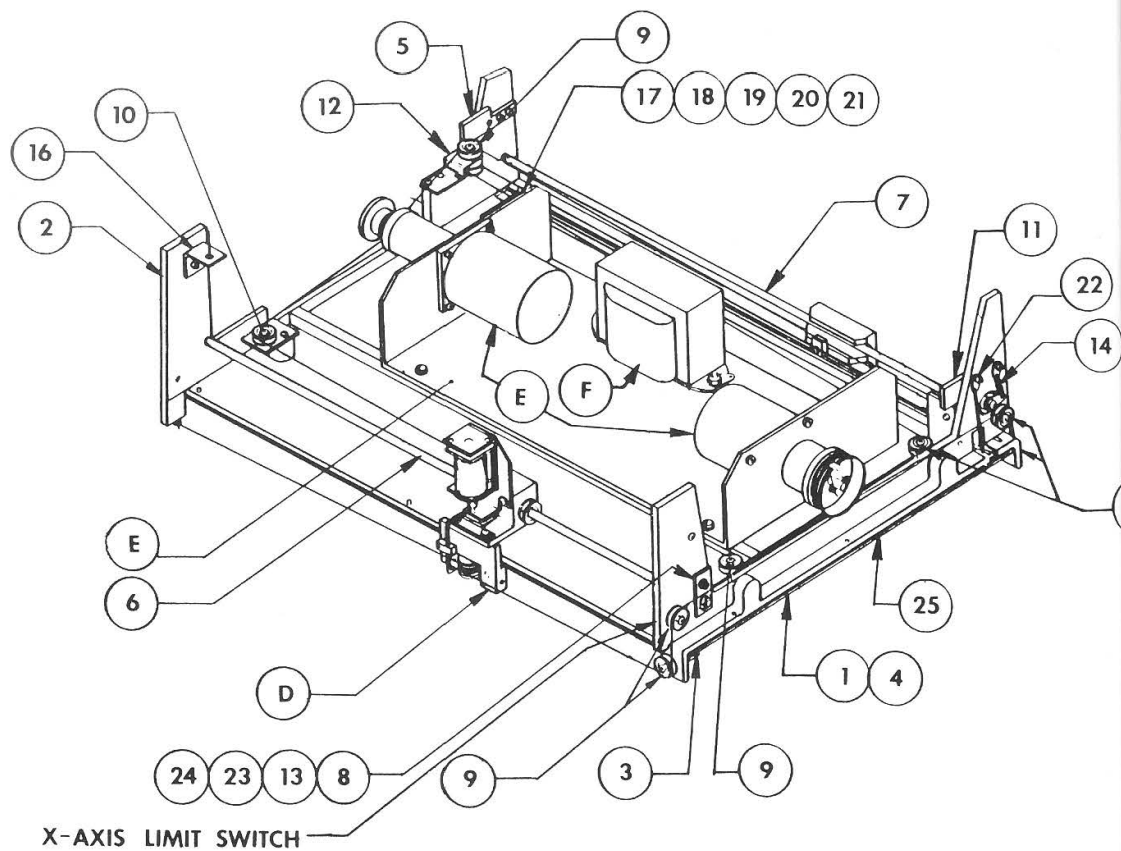

FIGURE 4-12
C. MAINFRAME ASSEMBLY DMP-801 (See Figure 4-12)